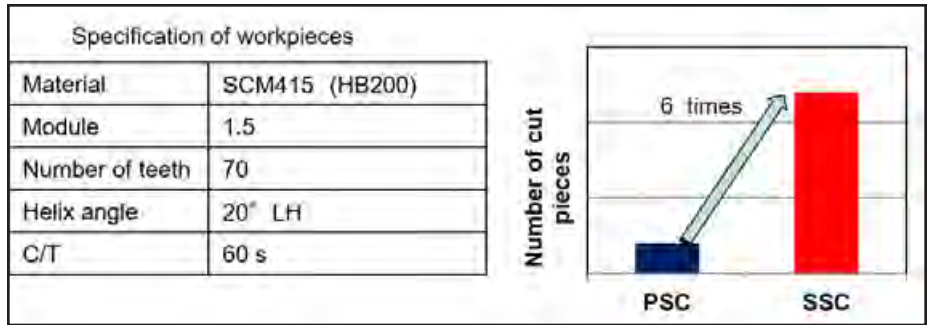

Figure 4 Comparison of performance between PSC and SSC (workpiece material: SCM415).
(≈HRC20) or less, which is relatively easy to cut. Figure 4 gives the results of continuous cutting in which each PSC and SSC tool was used to cut a workpiece with HB200 falling under Figure 3-(1), until the tool wear amount reaches 250 μm. This test was conducted under the same cycle time (hereinafter C/T). The results indicated that the number of workpieces processed by SSC was about 6 times larger than that by PSC. Some users, however, require a skiving process for a workpiece material with a hardness of HRC45 or less as can be seen in Figure 3-(2), which is something that overseas users often require. Therefore, in this test, we requested the cooperation of WZL of RWTH Aachen University in Germany as a third party organization and evaluated the performance of SSC for a workpiece material with a high hardness.
- 3.As illustrated in Figure 4, under the conditions where the workpiece hardness is HB200 and the C/T is the same, the tool life of SSC can be 6 times longer than that of PSC.